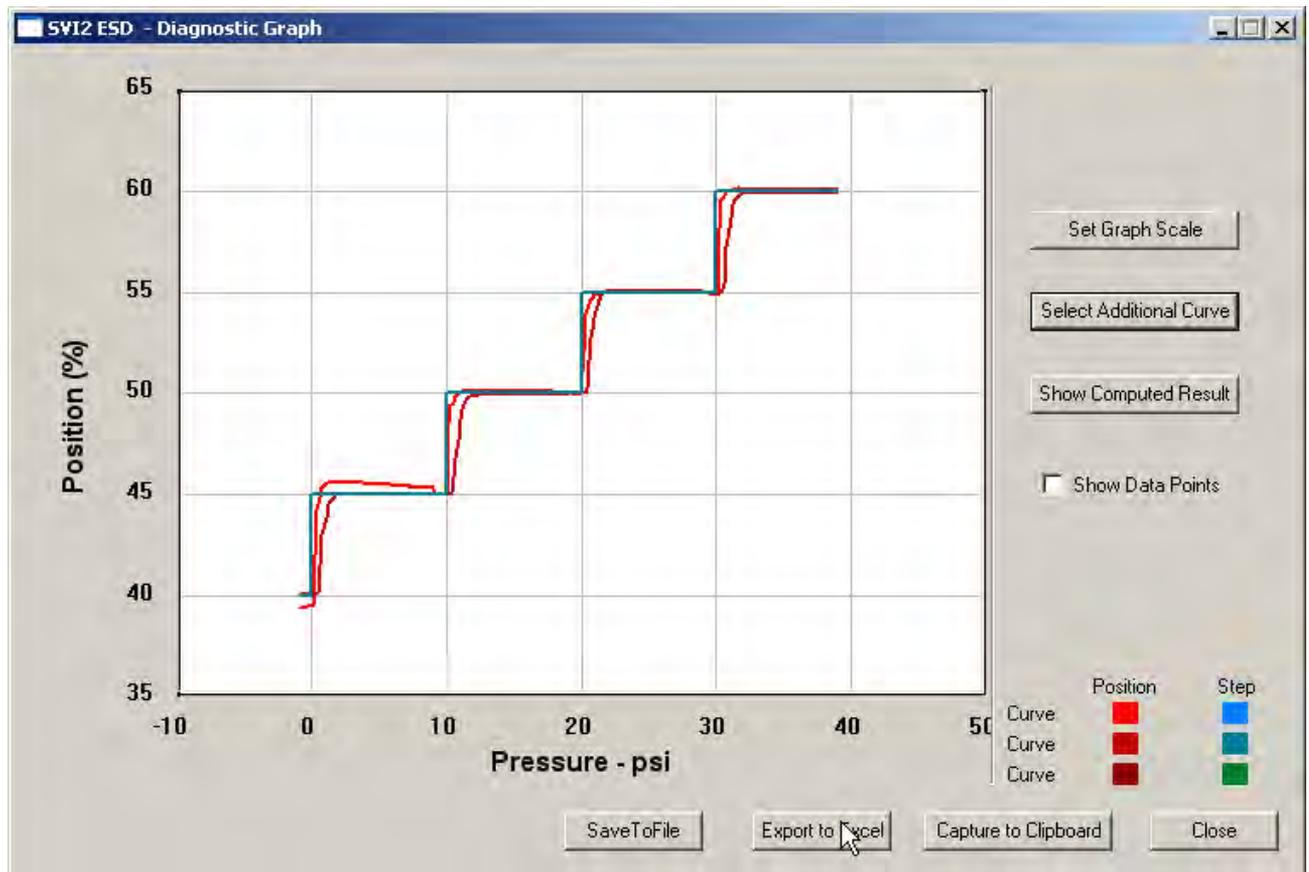

Figure 197 Selecting Export to Excel
- Click **Export to Excel** (Figure 197).